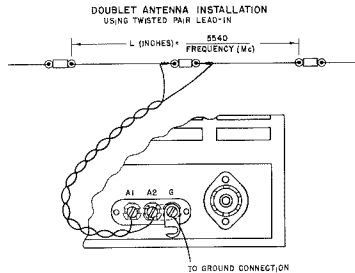

Figure 3. Doublet Antenna Installation.
A. Single Wire Antenna.—When using a single wire antenna installation, connect a jumper between the antenna terminal A2 and G. Then connect a single wire of about 50 to 75 feet (including lead-in) to terminal A1. Use #14 gauge copper wire or heavier for best results. Erect the antenna as high and free from surrounding objects as possible. This type of antenna works well where the signal to noise ratio is relatively high and a more elaborate installation is not practical. Refer to Fig. 3.
(1) To determine the proper length of the doublet antenna in feet:
(b) Wrap and solder the two wires of the lead-in to each of the quarter-wave sections at the insulator as shown in Figure 3.